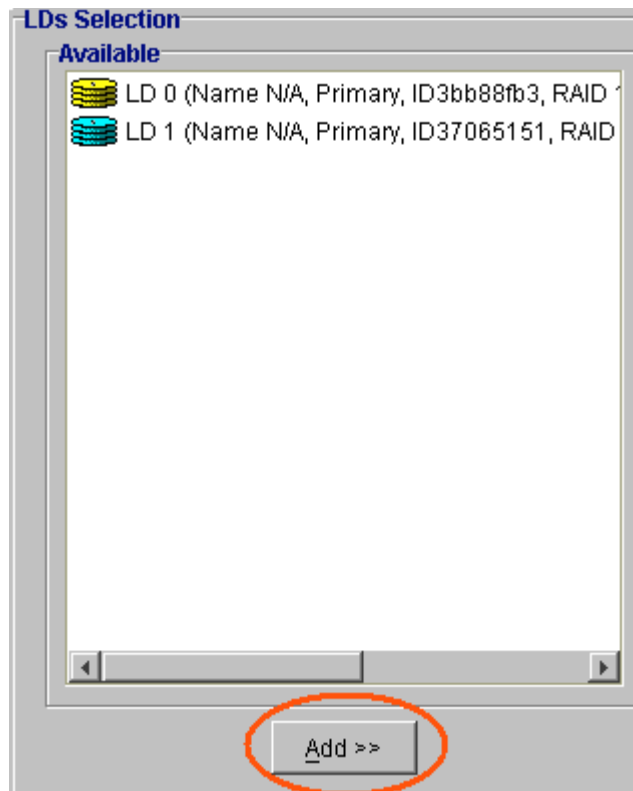

Figure 8-39: Selecting Logical Drives
Step 2. Select the LDs you wish to incorporate into a LV and click the “*Add*” button beneath the “*Available*” menu. See *Figure 8-39*.